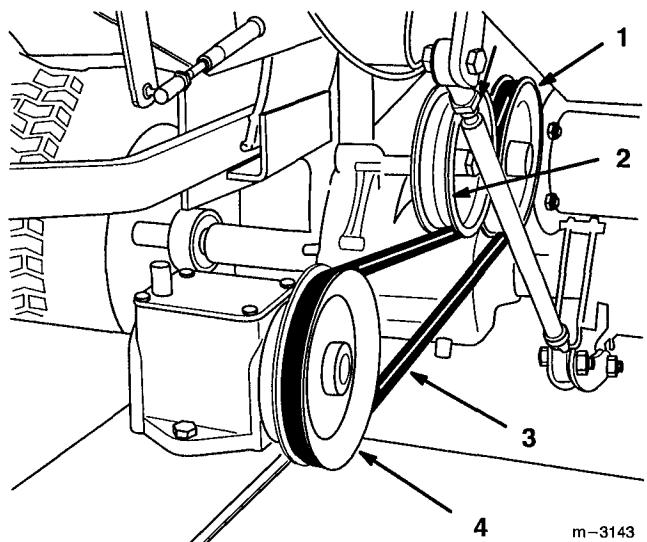

**Figure 3**
2. Mount the cutting deck to the carrier frame with four (4) clevis pins and hairpin cotters (Fig. 3).